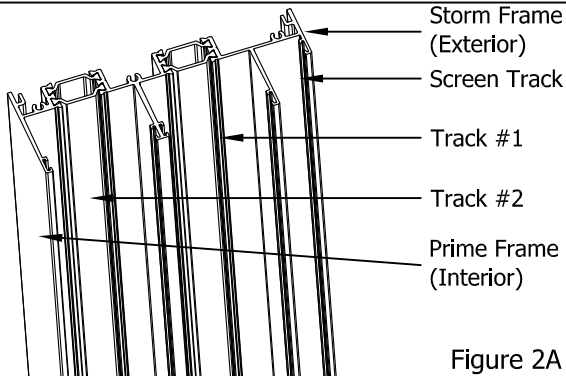
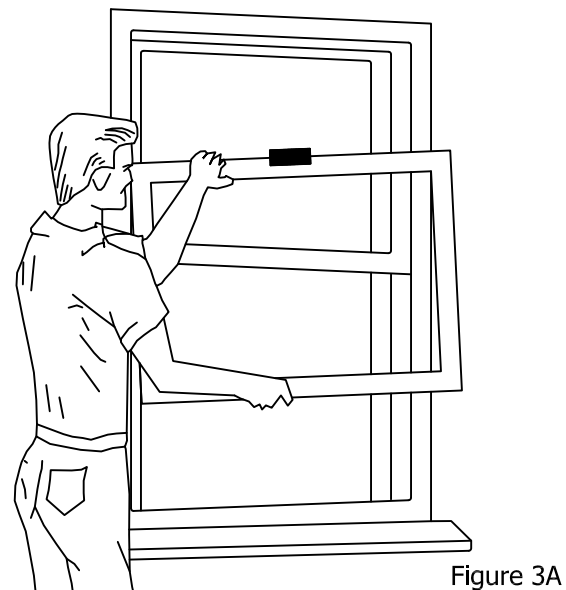
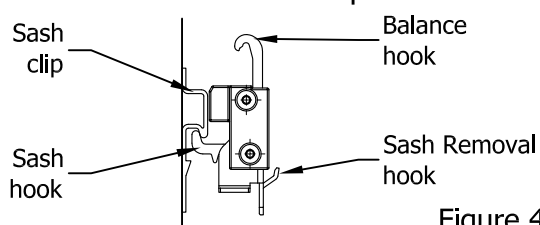

Figure 2A
Figure 3A
Figure 4A
1. Grasp the sash at the top and bottom rails (Figure 3A) and insert the left side of the sash into track "#1" (Figure 2A) with the sash clip about an inch above the carrier's sash hook (Figure 4A). When the sash is positioned properly it will bottom out in the left track, and can be inserted into the right hand track.
5. Grasp the sash at the top and bottom rails and insert the left side of the sash into track "#2" (Figure 2A) with the sash clip about an inch above the carrier's sash hook (Figure 4A). When the sash is positioned properly it will bottom out in the left track and be inserted into the right hand track.
4. Grasp the top of sash & bottom handle rails. (Figure 3A) Raise the weight of the sash off the carriers and lift up an inch or two while pushing the sash to your left into the track until the sash bottoms out at the base of the track. At this point, the right side of the sash will be free of the frame. Pull the right side of the sash in toward yourself, and then out of the left track. The sash should now be free of the frame.
7. Open the sash removal hooks on the carrier at each side of the upper sash track near the top (Figure 4A)